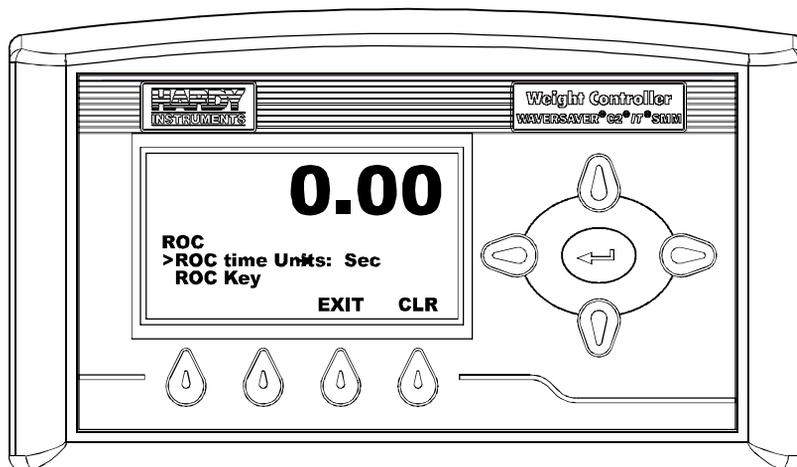

FIG. 145 ROC MENU/SETTING TIME UNITS
Step 5. Press the down arrow button until the cursor is in front of ROC Time Units. (See Fig. 145)